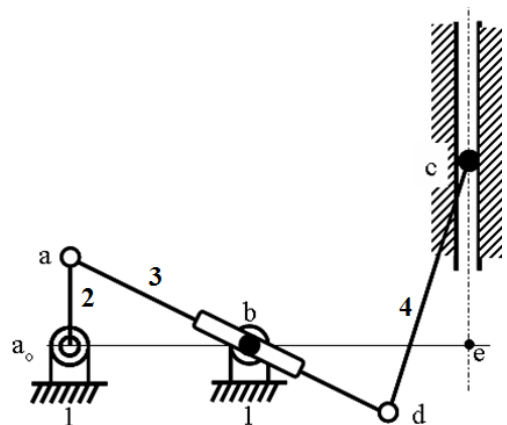

Fig. 6 Four-bar mechanism
6. Fig. 6 show a crank-slider. For the mechanism, if $a_{a_0}=200\text{cm}$, $a_0b=400\text{cm}$, $ad=800\text{cm}$, $cd=600\text{cm}$, $be=500\text{cm}$, and $\omega_2=100\text{ rad/s}$. (a) According to the real dimensions of mechanism, please redraw this mechanism, (b) Using instant center method, find the angular velocity of link 3 (ω_3) and linear velocity of point c (V_c). (15%)